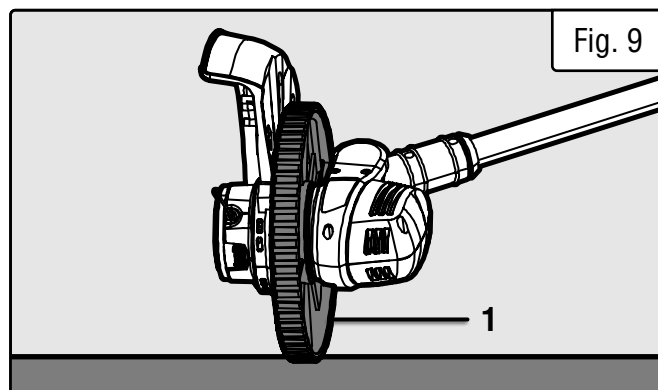

Fig. 9
3. Start the trimmer. Place the edging wheel (Fig. 9 - 1) on the ground and roll it along the desired cutting path. The wheel will help guide the trimmer.